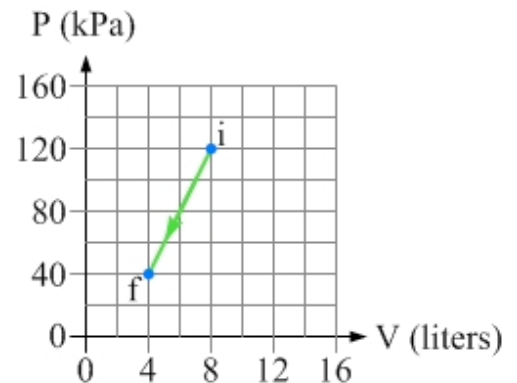

Figure 15.27: A process carried out on a system of diatomic ideal gas, for Exercise 28.
28. A system of diatomic ideal gas with an initial temperature of 500K is taken from an initial state i to a final state f by the process shown on the P-V diagram in Figure 15.27. Determine (a) the work done by the gas in the process. (b) the final temperature of the system. (c) the change in internal energy of the gas. (d) the heat associated with the process.